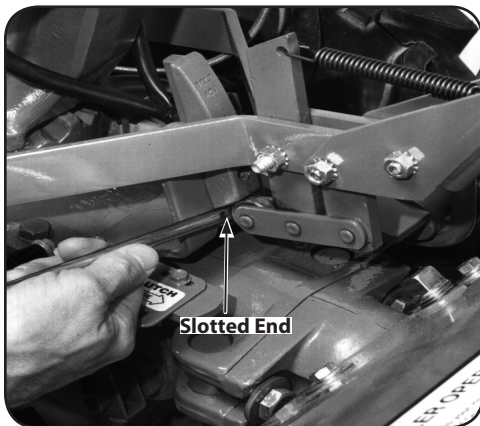

Figure 5-14
- a. Without moving the clutch roller, try inserting the $\frac{1}{4}$ "-thick, slotted end of the belt adjustment tool in between the roller and the upright bracket. The flat edge of the tool must be facing the roller. See Figure 5-14.